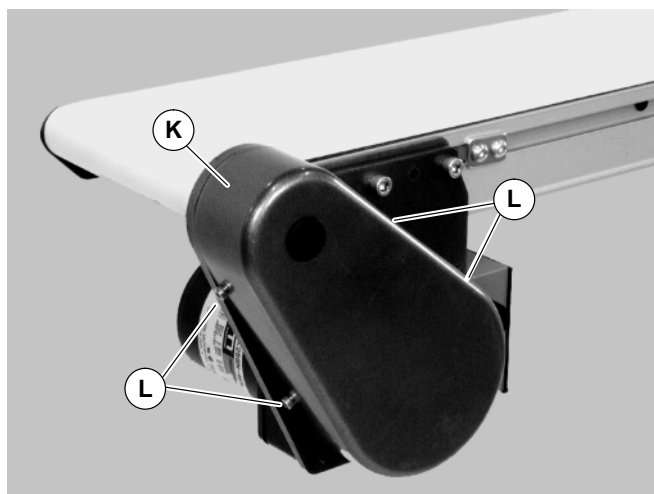

Figure 9
1. Remove four (4) screws (L of Figure 9) and remove cover (K).
4. Install cover (K of Figure 9) with four (4) screws (L). Tighten screws to 4 Nm.
- Install cover (K of Figure 9) with four (4) screws (L). Tighten screws to 4 Nm.
2. Remove four (4) screws (L of Figure 9) and remove cover (K).